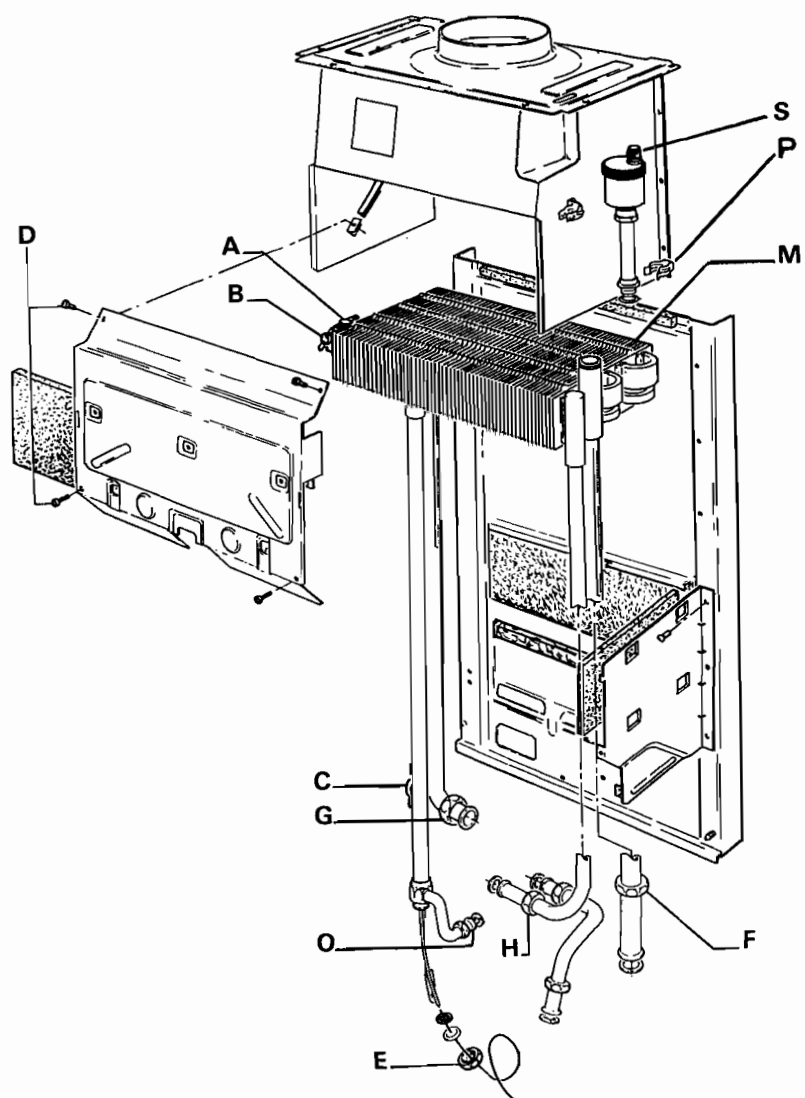

Fig. 14
- c. Bleed off the air from all radiators and from the circulating pump by removing the front screw plug (see 'E' Fig. 9). Loosen the Automatic air vent screw (see 'S' Fig. 14) fitted on the flow header and fill to the required pressure.